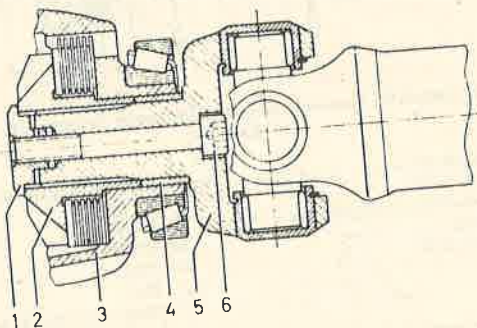

Fig. 8.23. Sectional view of axleshaft universal joint (Sec. 11)
- 4 Using a suitably long Allen key, unscrew and remove the socket headed screw which secures the yoke in position (Fig. 8.23).